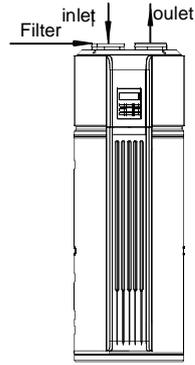

Fig. 3-8
5) Filter installing at the unit inlet. In terms of the unit with duct, filter in there must be put on the position of duct inlet. (Fig.3-8/3-9)